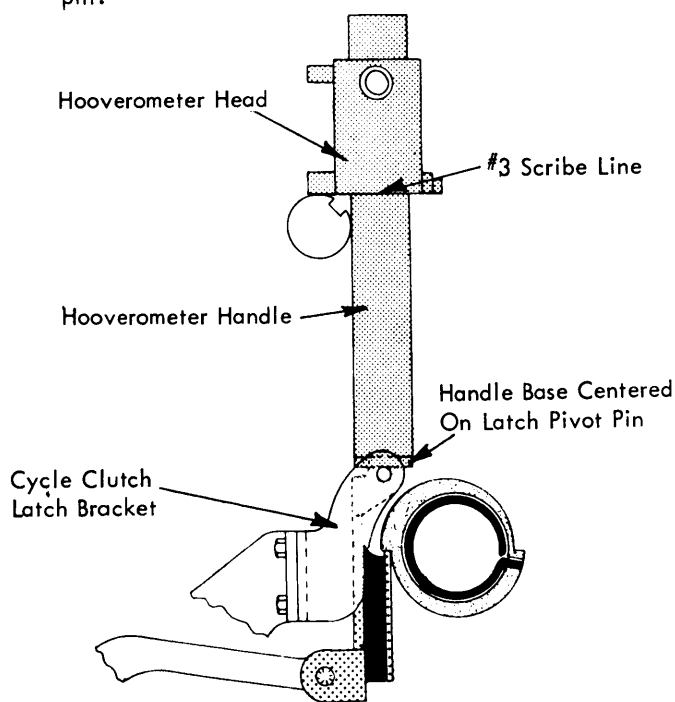

FIGURE 28. Cycle Clutch Latch Bracket Adjustment
- 2. Cycle Clutch Latch Bracket - Adjust the bracket vertically so that the steps of the cycle clutch sleeve are horizontal when the sleeve is stopped by the latch (Fig. 28).
When properly adjusted the top of the latch pivot pin is 1.546" below the top of the print shaft. This distance can be measured with the use of the Hoovermeter. With the head of the Hoovermeter set at the #3 scribe line, the head should rest on top of the print shaft with the handle touching the latch pivot pin (Fig. 28). Be sure the Hoovermeter handle is vertical. It will be vertical if the base of the handle is centered over the latch pivot pin.